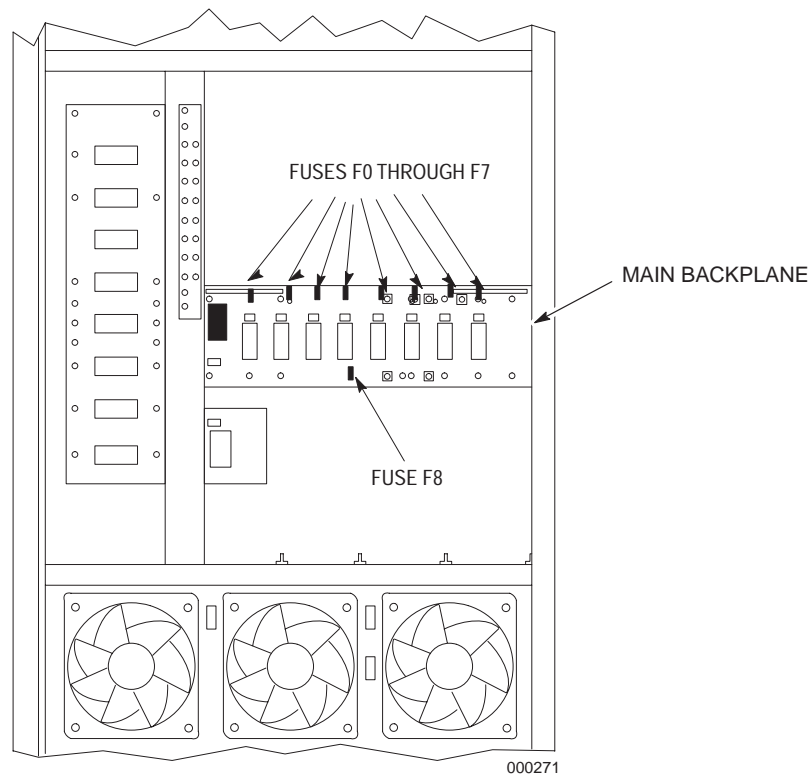

Figure 11-12. Fuses on the Main Backplane (Front View).
5. When the **ENTER BOOT COMMAND:** prompt appears, turn off the power to the server by switching the main-power circuit breaker on the back of the power-distribution tray to the OFF position (0).
9. Replace any blown fuses. The locations of the fuses are shown in Figure 11-12.